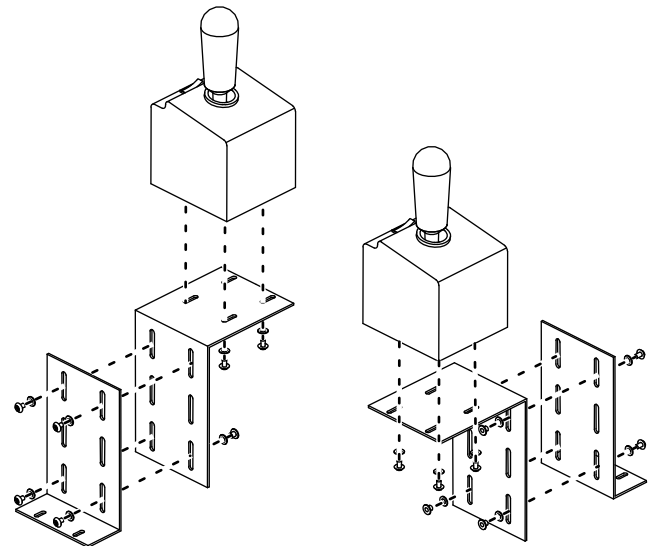

Figure 28
1. Determine the best location and configuration for your controller mounting-bracket; refer to Figure 28 for possible configurations.
2. Secure the mounting brackets to the vehicle and joystick controller using 8 to 10 bolts (#8), washers (#10), and nuts (#8) as shown in Figure 28.